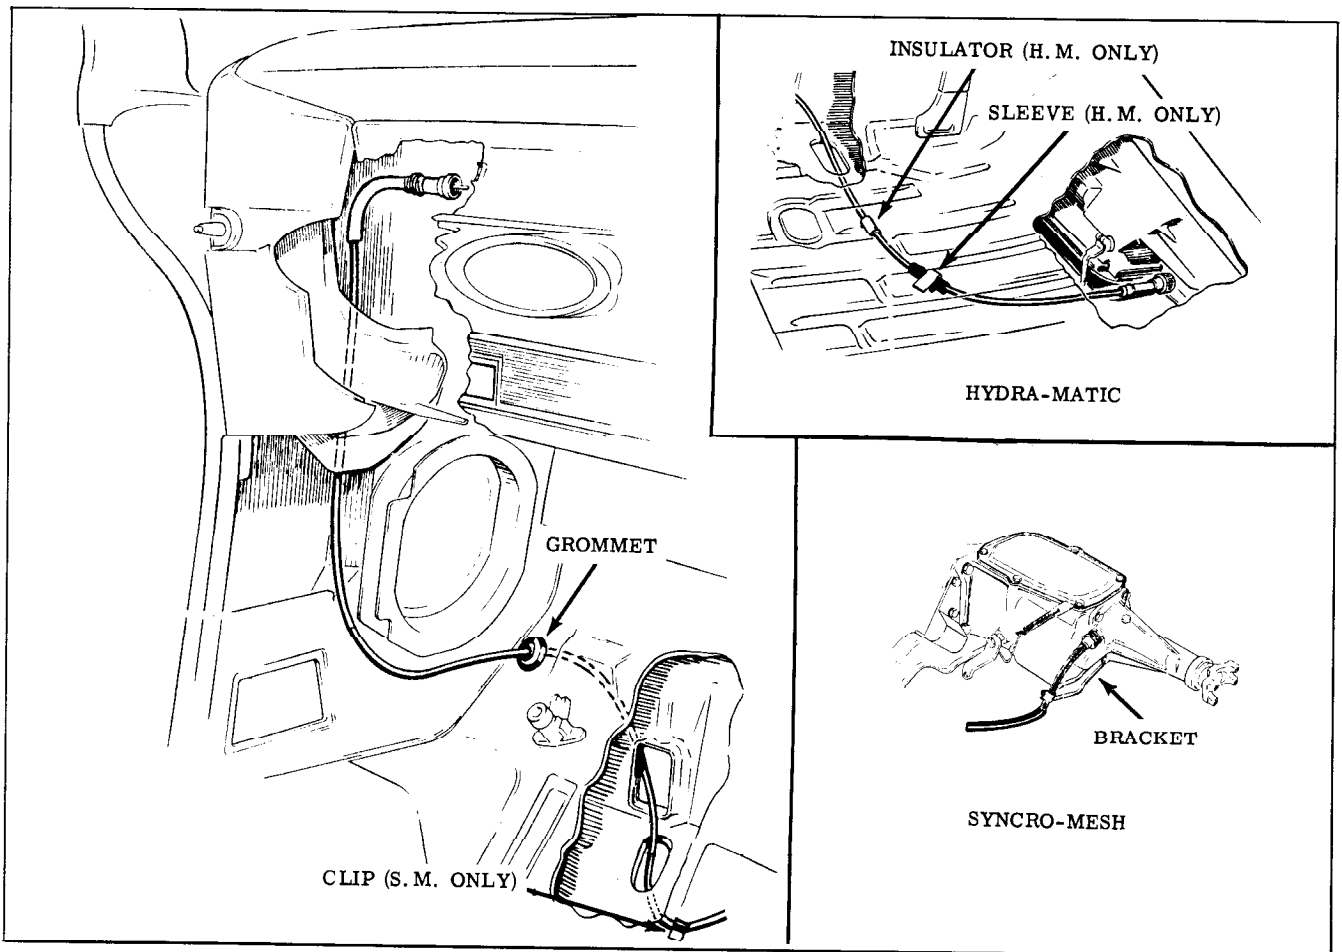

Fig. 15-4 Speedometer Cable Routing
5. Remove cable from car. (Refer to Fig. 15-4 for routing and cable clip locations)